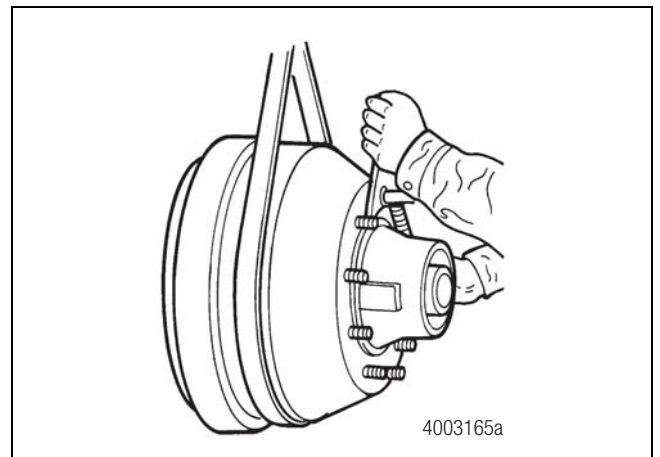

Figure 3.8
10. Remove the outer bearing cone, then the hub and drum assembly from the axle spindle. Support the hub and drum assembly during the entire removal process, as failure to do so may result in damage to the axle spindle threads. Figure 3.8.